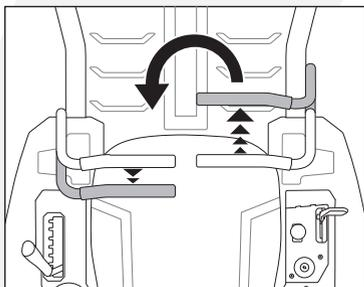

Fig.19B
3. To turn counter-clockwise, move the right drive control lever forward while simultaneously moving the left drive control lever rearward. (Fig.19B)